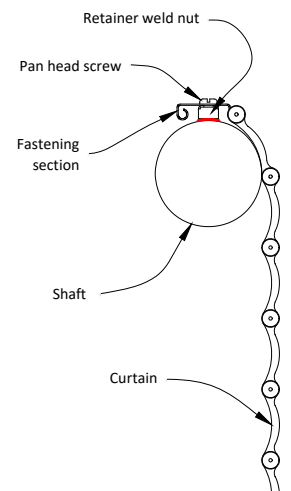

**Figure 8**
**Shafts with retainer weld nuts:** Remove stoppers from both guides and bottom clip angle from both brackets. Place curtain flat on ground between guides with exterior face up (arched side of molded links up). Pick curtain up by bottom bar, feed between brackets over shaft and then down between lintel and shaft into guides; refer to figure 8. Line up slots in fastening sections with retainer weld nuts on shaft. Install 1/4-20 x 3/8” pan head screws into retainer weld nuts; refer to Figure 9. Prior to tightening down screws be sure curtain is spaced evenly between mounting members. Replace stoppers and clip angles.
**Shafts with S114A rings:** Remove stoppers from both guides and bottom clip angle from both brackets. Remove #10-24 x 5/8” truss head screws from weld studs. Place curtain flat on ground between guides with exterior face up (arched side of molded links up). Pick curtain up by bottom bar, feed between brackets over shaft and then down between lintel and shaft into guides; refer to figure 8. Line up slots in fastening